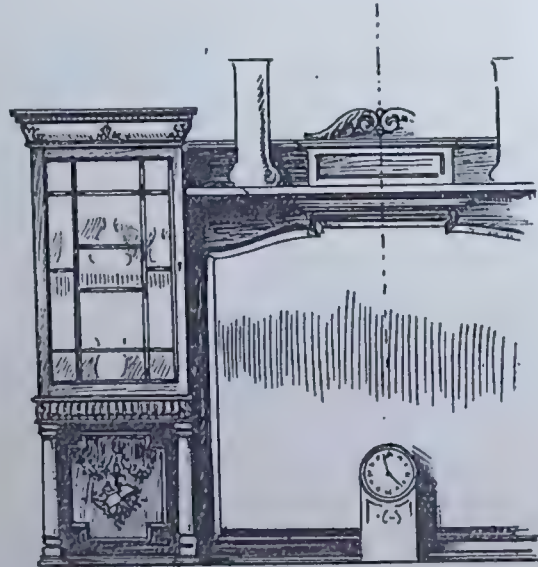

FIG. 2.—ALTERNATIVE DESIGN (No. 328).
between (A). The upper columns (B) are 10 ins. long by 2 ins. diameter, and show a bevelled wood panel between. The cupboard should show about 18 ins. high by 14 ins. to 15 ins. wide over all, the uprights (C) carrying three flutes each. The doors (1½ ins. by 1 in. framing) have barred and glazed panels in simple fashion. A glass shelf may be fitted inside, and a mirror may be added to the inside back if you wish to lighten the effect. The lower columns (D) should be turned and slightly tapered, 2 ins. diameter, and may be 9 ins. high to cupboard, or 12 ins. as drawn. The lower panel between might be improved with a little neat carving, although the present tendency is to keep the panels plain. The mirror would come out at about 3 ft. wide by 2 ft. 6 ins. high, with 1 in. bevel. The lower columns have projecting moulded toes, and as a further suggestion the cornice may be dentilled and the mould below carved up egg and tongue pattern. Top can be fitted with dustboard and a stop groove or fillet for plates if desired. The alternative back (Fig. 2) has a cupboard 2 ft. high by 15 ins. wide, with 1½ ins. by 1 in. panelled glazed door—one glass shelf inside. The cornice may include a small dentil, and the shaped ogee frieze is carved acanthus at angles and in the centre. The mould below cupboards, 2½ in. wide, is also carved with nulling and acanthus at angles. The lower 2½ in. columns should be turned up with a